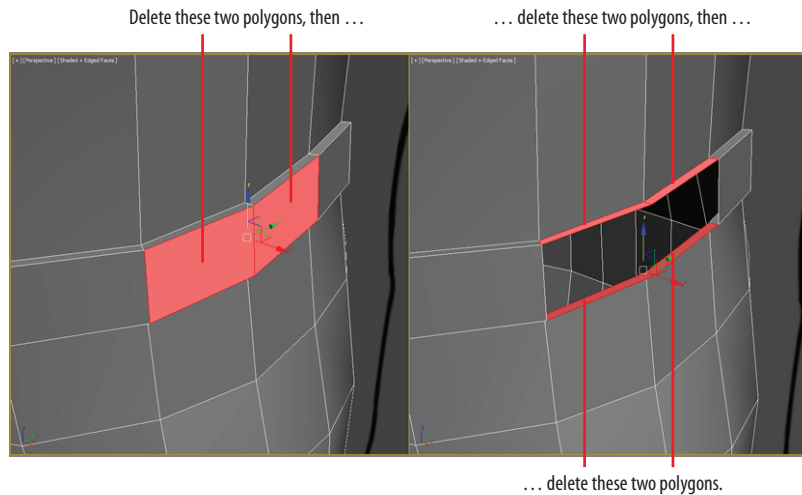

FIGURE 8.6 Delete the two polygons on the left side of the belt (left image); then select the indicated polygons for the next step (right image).
1. Delete two polygons of the belt on the body's left, as shown in the left image in Figure 8.6.